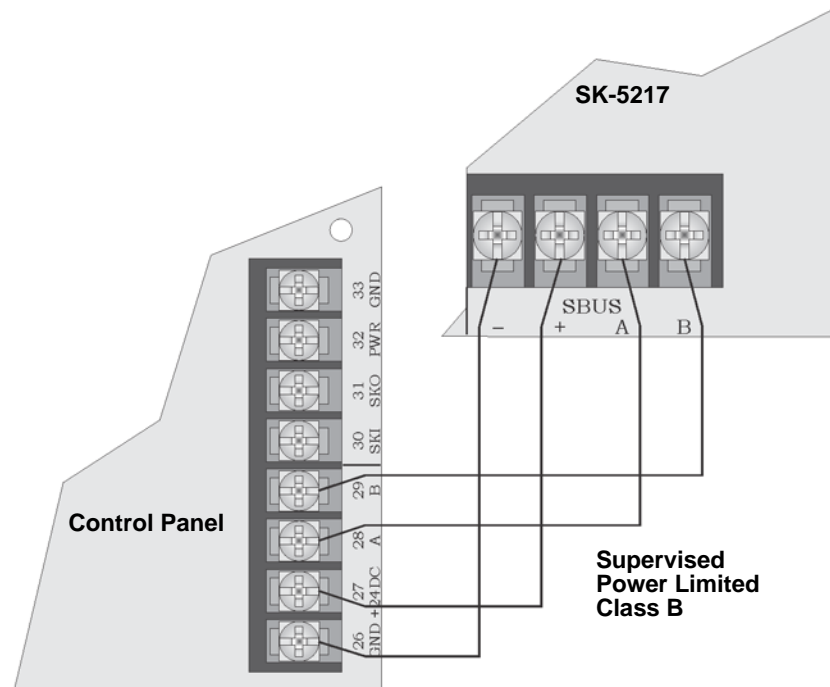

Figure 3-19 SBUS Connections
The Model SK-5217 provides the SK-5208 with ten additional Class B (style B) zones. The SK-5217 connects to the SK-5208 control panel via the SBUS as shown in Figure 3-19.
3. Connect the SK-5217 to the SK-5208 control panel as shown in Figure 3-19.
4. Connect the SK-5217 to the SK-5208 control panel as shown in Figure 3-19.